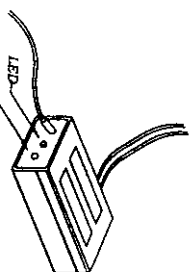

Figure 5-1
1. LOCATE the receiver PRG/ERASE button. (Figure 5-1)